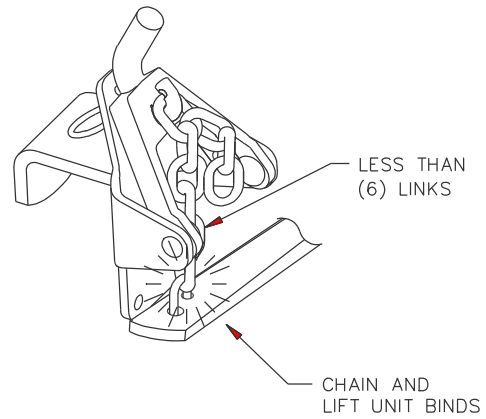

FIGURE 5
**CAUTION: FAILURE TO CONNECT THE SPRING BAR CHAIN CORRECTLY AND PROVIDE AT LEAST 6 LINKS BETWEEN LIFT UNIT AND SPRING BAR CAN RESULT IN DAMAGE TO THE LIFT UNIT. FIGURE 5 SHOWS INCORRECT SPRING BAR CHAIN HOOK UP.**